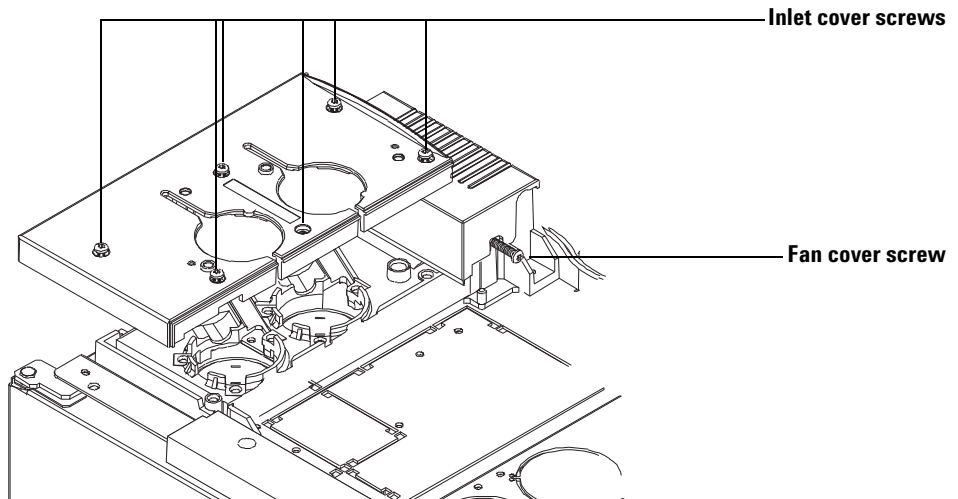

Figure 2 Removing the injection port top cover and inlet fan cover (6890 Series GC)
- 1 Loosen the Torx T-20 screw on the right side of the fan cover. See Figure 2 on page 42 for screw location.
1 Fully loosen the six Torx T-20 screws on the top of the cover (Figure 2).